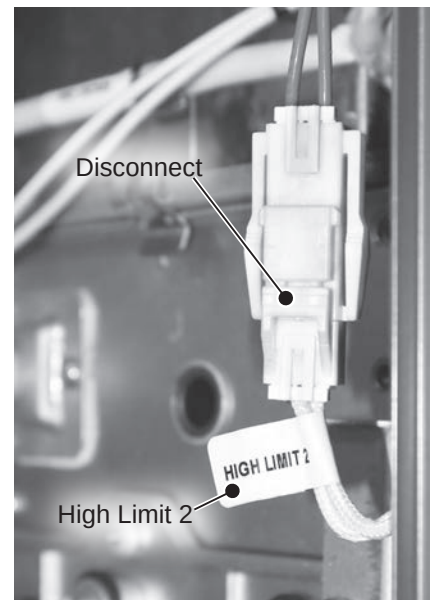

Figure 31 - Disconnecting high limit 2
- 7 Locate the high limit 2 wiring harness and disconnect it. See Figure 31.